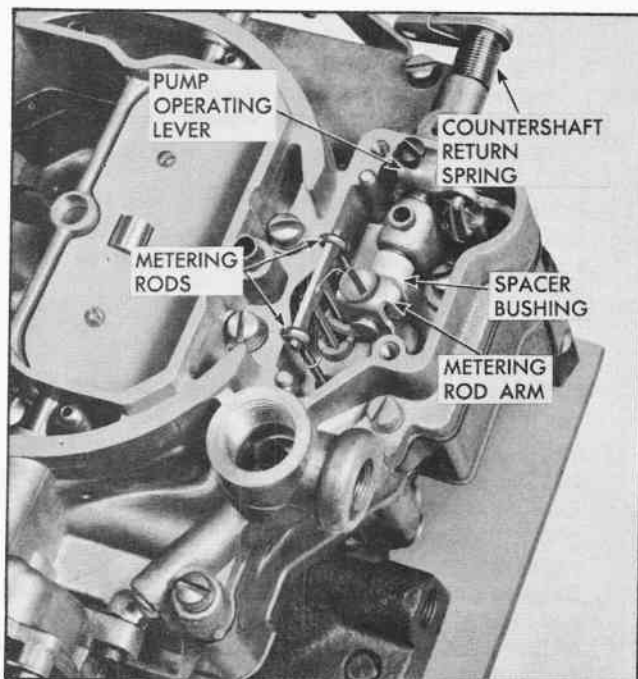

Fig. 10 Metering Rod and Pump Linkage
5. Unhook countershaft return spring (Fig. 10).